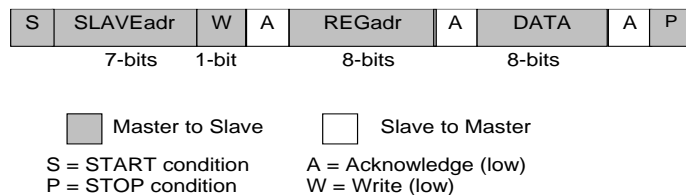
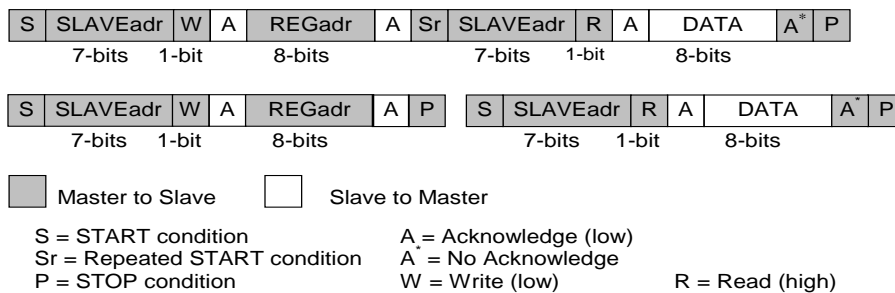

Figure 17: I²C Byte Write (SDA Line)
Figure 18: I²C Byte Read (SDA Line) Examples
The I²C bus is monitored for a valid slave address whenever the interface is enabled. It responds immediately when it receives its own slave address. The acknowledge is done by pulling the SDA line low during the following clock cycle (white blocks marked with A in Figure 17 and Figure 18).
The protocol for a register write from master to slave consists of a START condition, a slave address with read/write bit, and the eight-bit register address followed by eight bits of data, terminated by a STOP condition. DA9131-A responds to all bytes with acknowledge (A), see Figure 17.
When the host reads data from a register it first has to write to DA9131-A with the target register address and then read from DA9131-A with a repeated START, or alternatively a second START, condition. After receiving the data, the host sends no acknowledge (A*) and terminates the transmission with a STOP condition, see Figure 18.